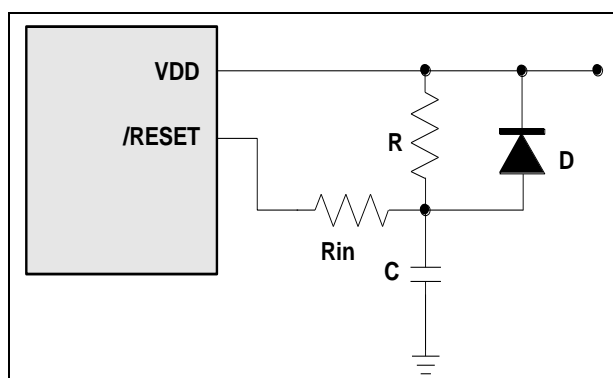

Figure 6-41 External Power-Up Reset Circuit
The circuit as shown in Figure 6-41 implements an external RC to produce the reset pulse. The pulse width (time constant) should be kept long enough for VDD to reached minimum operation voltage. This circuit is used when the power supply has slow rise time. Because the current leakage from the /RESET pin is about $\pm 5\mu\text{A}$, it is recommended that R should not be greater than 40K. In this way, the /RESET pin voltage is held below 0.2V. The diode (D) acts as a short circuit at the moment of power down. The capacitor C will discharge rapidly and fully. Rin, the current-limited resistor, will prevent high current or ESD (electrostatic discharge) from flowing to pin /RESET.